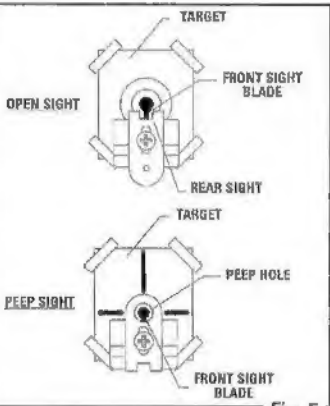

Fig. 5
- An open sight is correctly aimed when the front sight blade is positioned exactly in the notch of the rear sight. The top of the front sight blade should be even with the top of the notch in the rear sight. The bullseye should appear to rest on the top of the front sight (Fig. 5).
- A peep sight is correctly aimed when the top of the front sight blade is positioned exactly in the center of the rear sight aperture (peephole). The bullseye should appear to rest on the top of the front sight (Fig. 5).